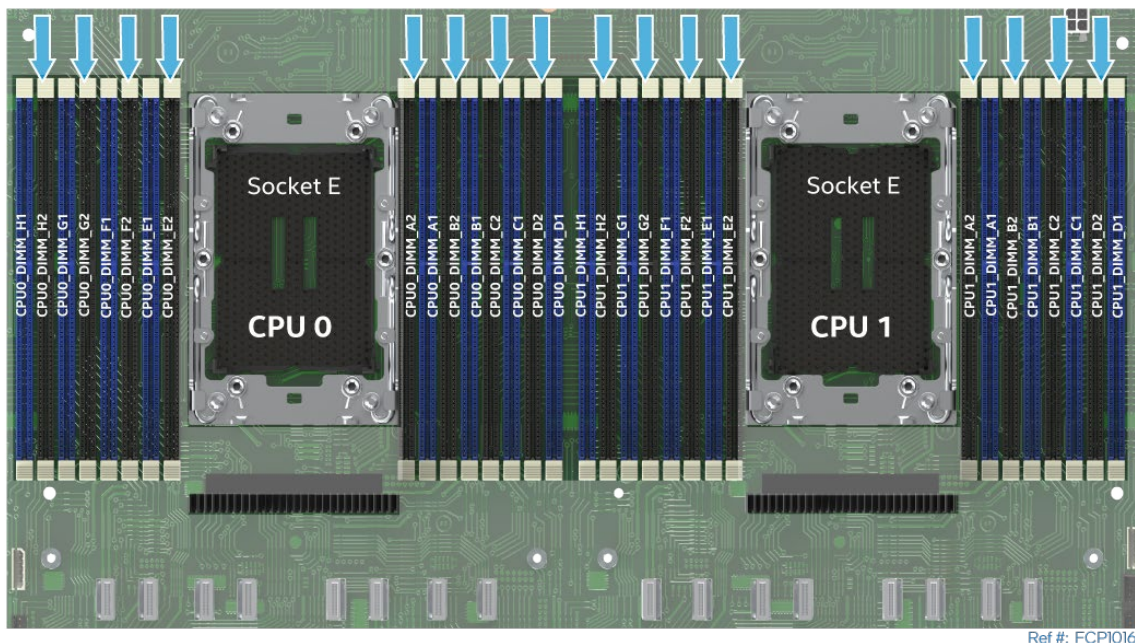

Figure 27. System Memory Module / DIMM Blanks Configuration
- All black memory slots must be populated with a memory module or factory installed DIMM blank (See Figure 27). All system configurations ship from Intel with DIMM blanks preinstalled. Preinstalled DIMM blanks should only be removed when installing a memory module in its place.